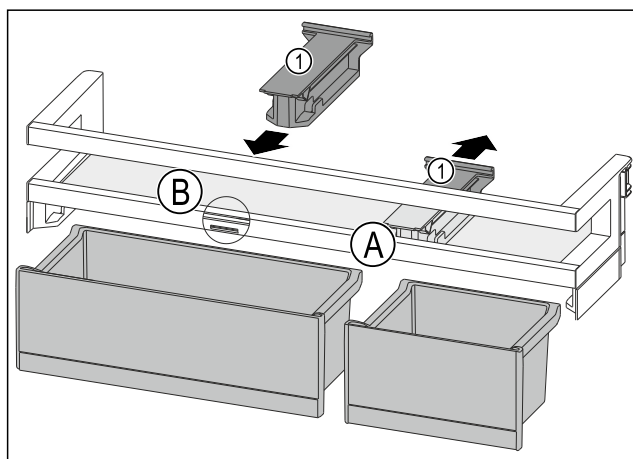

Fig. 127
- Take off the holding part Fig. 127 (1) in position Fig. 127 (A) backwards.
- Insert the holding part Fig. 127 (1) in position Fig. 127 (B).